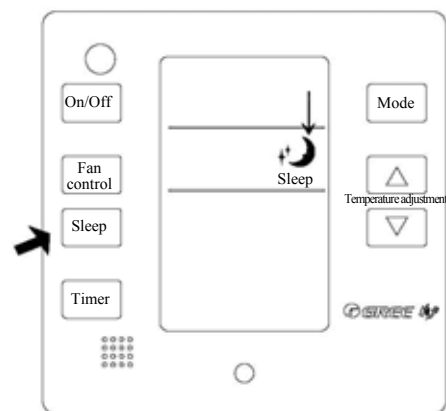

Fig 4
4) SLEEP function setting (Fig.4)